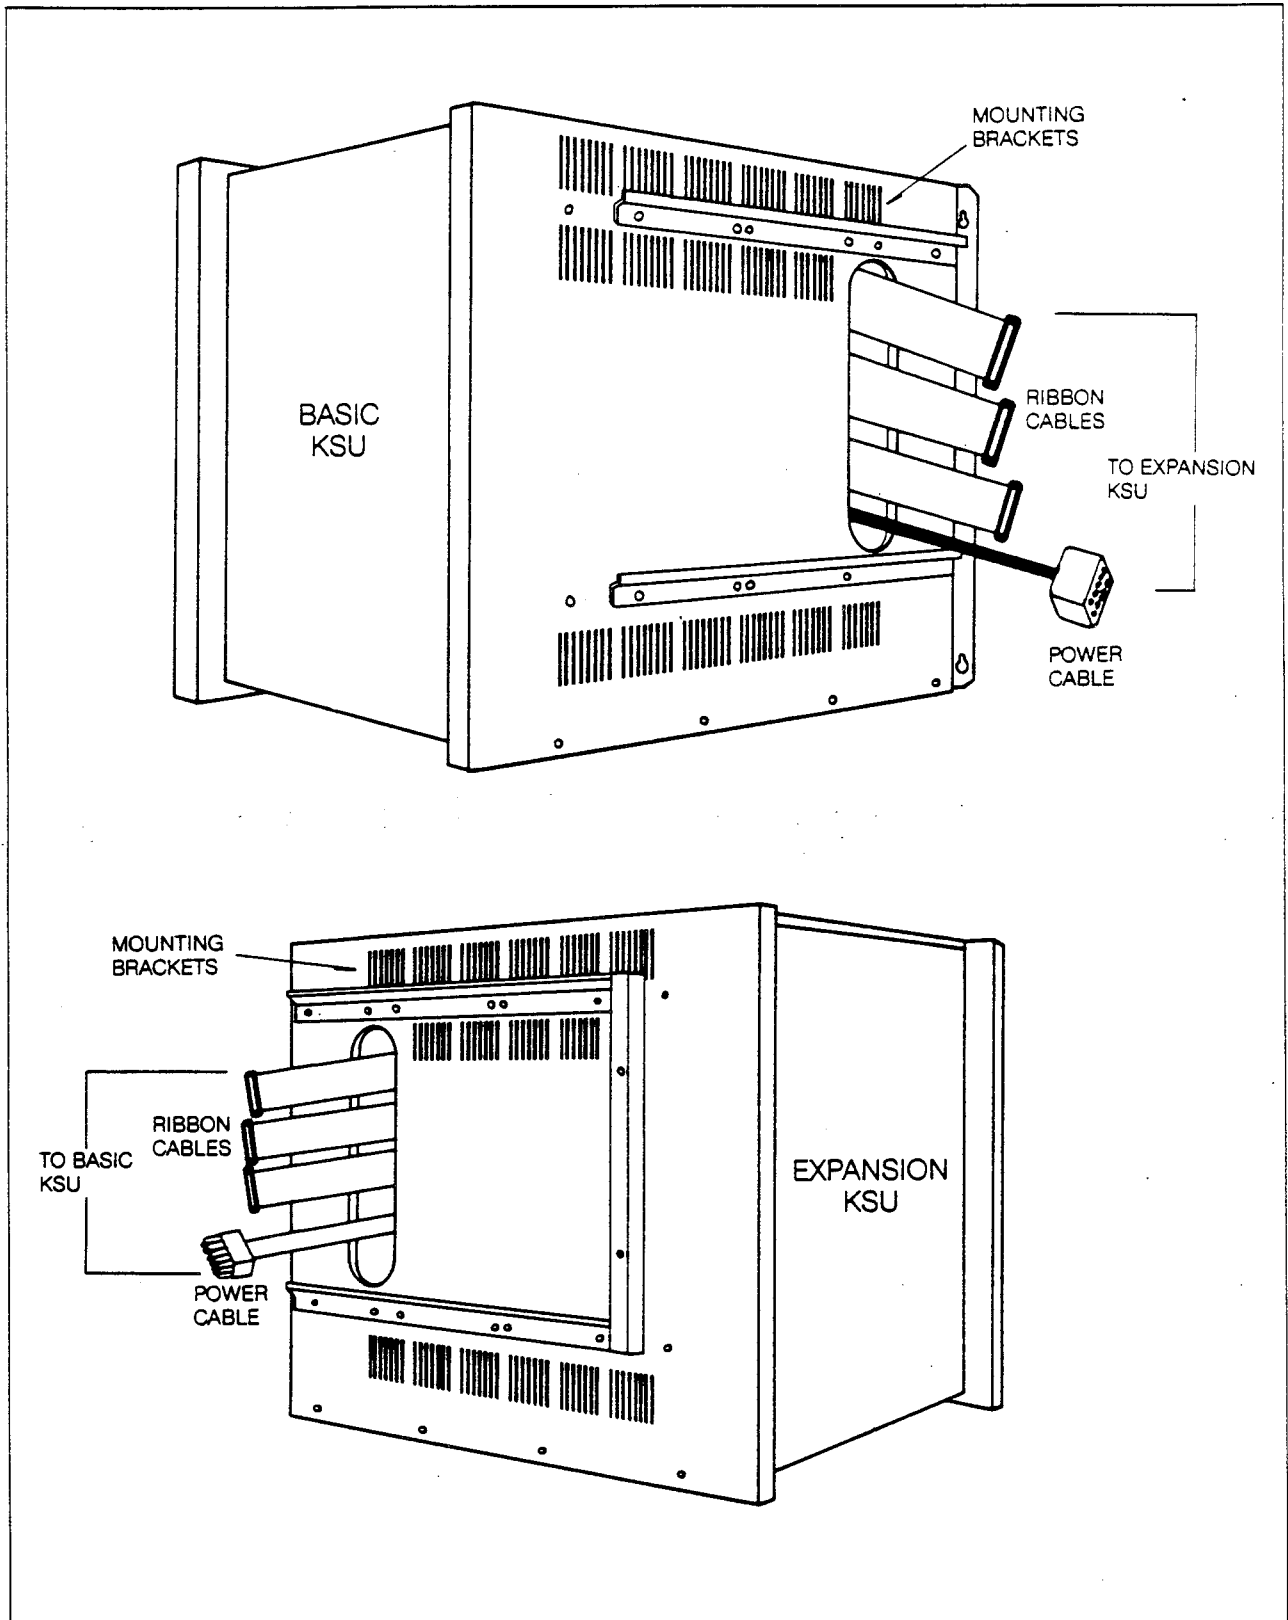

Figure 5-20 Installing the Expansion KSU
- d. Feed the three ribbon cables through the slot created by removing the side cover the plug them into the Basic KSU (Refer to Figure 5-20).